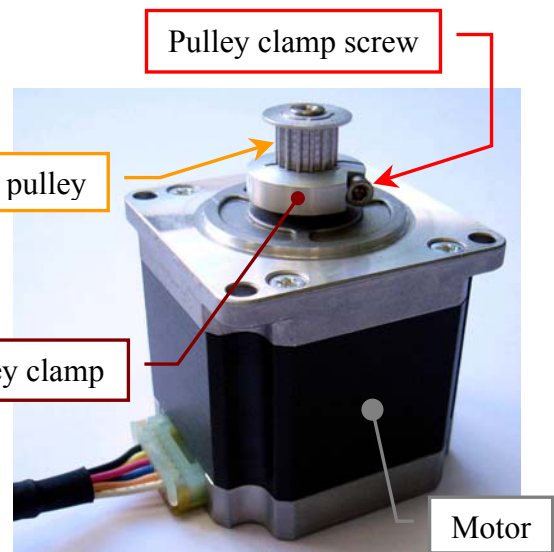
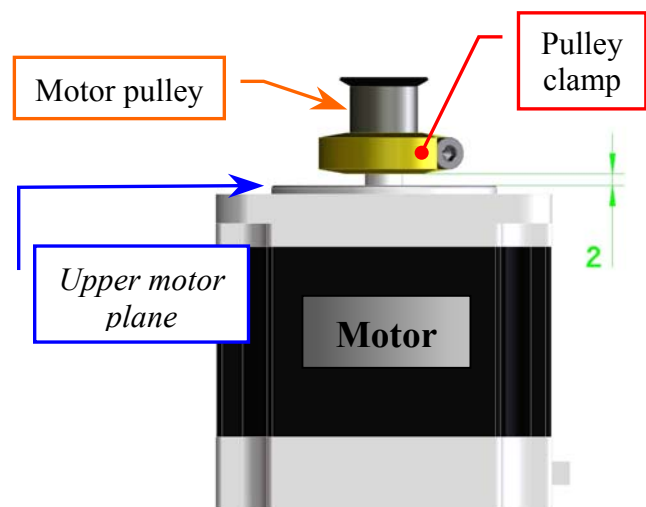

Fig. 84 – Motor pulley
Fig. 86 – Plate Motor (scheme)
6. Loosen the pulley clamp screw and extract the pulley clamp and the pulley from the motor shaft (Fig. 84).
7. Insert the pulley clamp completely on the motor pulley (Fig. 86) and then insert all two on the motor shaft.
8. Position the motor pulley to **2.00 mm** with respect to upper motor plane (Fig. 86), then tighten the pulley clamp screw (Fig. 84).
6. Loosen the pulley clamp screw and extract the pulley clamp and the pulley from the motor shaft (**Fig. 84**).
7. Insert the pulley clamp completely on the motor pulley (**Fig. 86**) and then insert all two on the motor shaft.
8. Position the motor pulley to **2.00 mm** with respect to upper motor plane (**Fig. 86**), then tighten the pulley clamp screw.